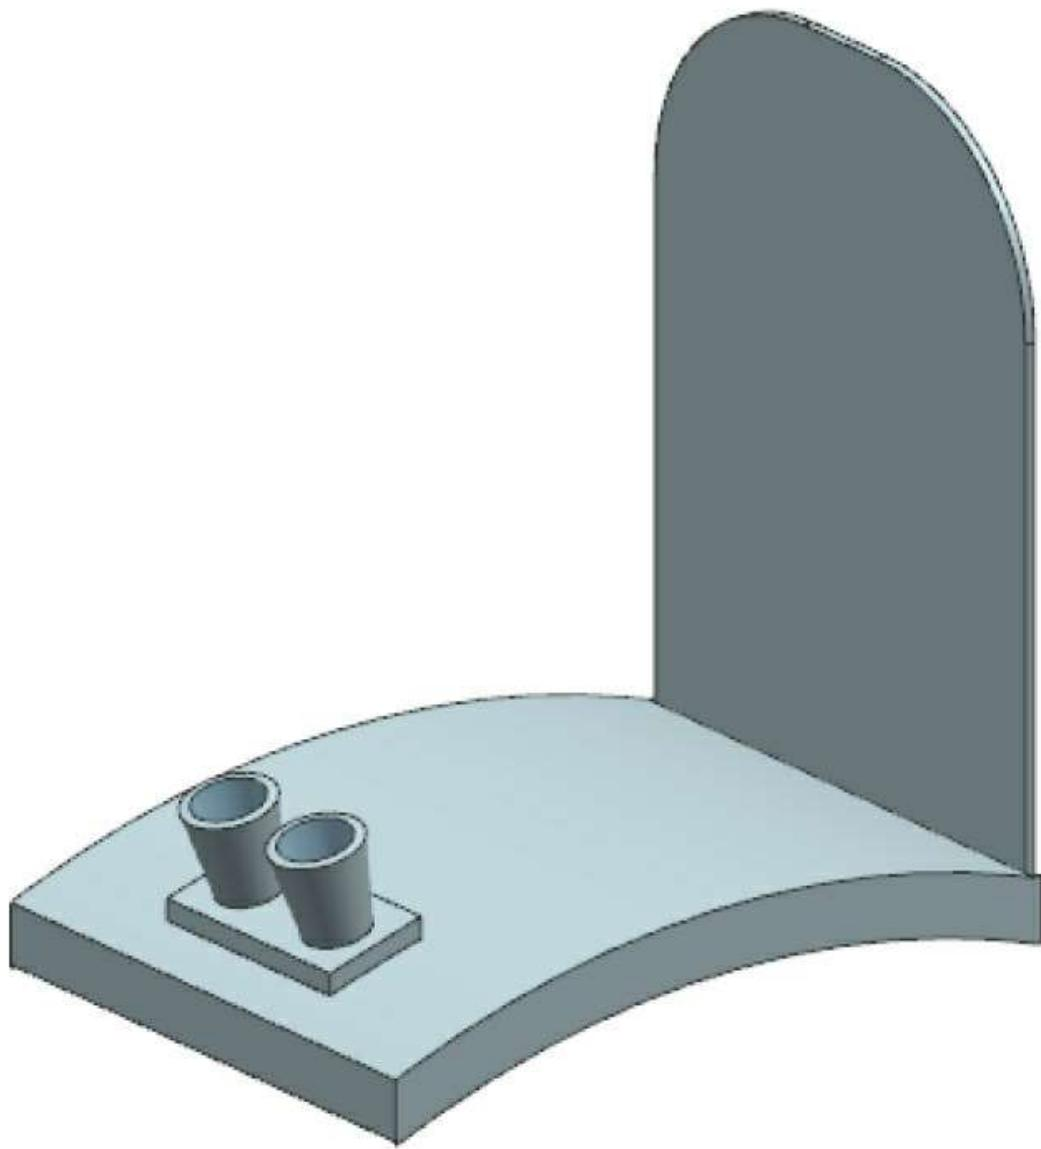

Figure 11-87 Final surface model after adding the thickness
- j. Add thickness to the surface model, refer to Figure 11-87.
3. Choose the **OK** button from the dialog box. The final model after adding the thickness is shown in Figure 11-87.